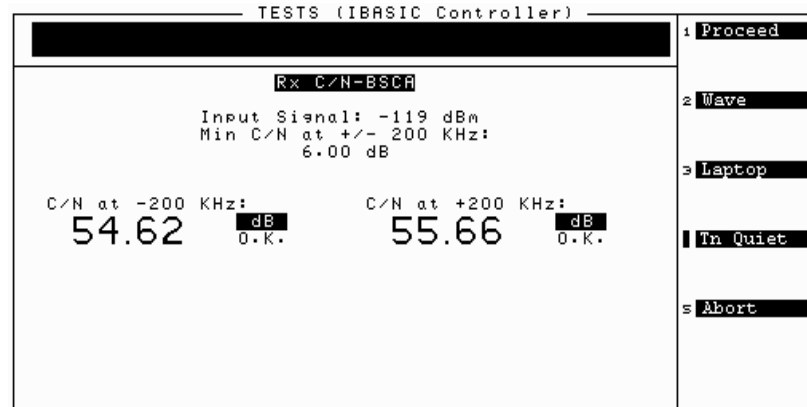

Figure 24 Power Meter Screen for RX C/N - BSCA Measurement
1. If you set the Use Power Meter Screen When parameter to None or if you press k1 (Proceed) on the power meter screen (see **figure 24 on page 86**), the Test Set will show the test result table on the display when the testing is complete. If the measurement's result falls outside the specified limits, the measurement will fail. A failure is indicated by an F in the P/F column.